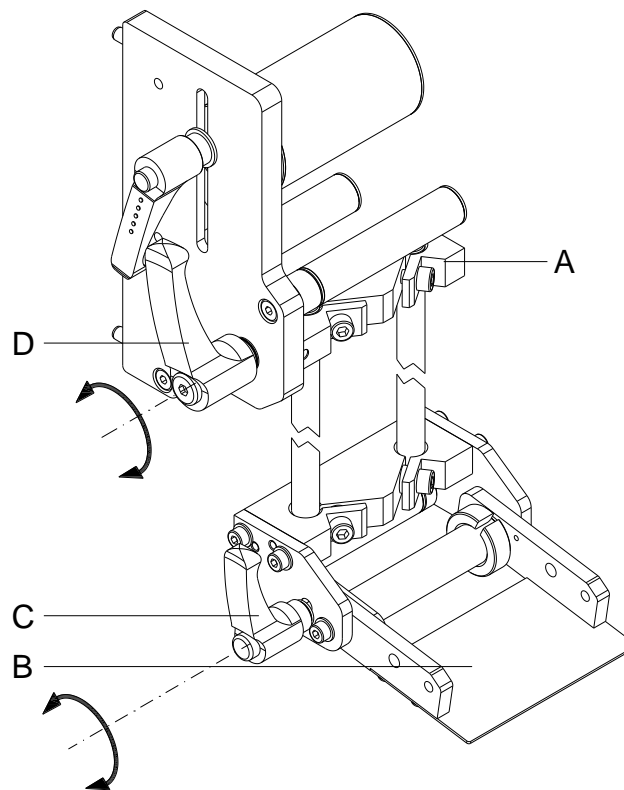

Figure 24
The angle of inclination of the dispensing edge (B, Figure 24, page 37) can be adjusted independently to the angle position (see page 37) by approx. 23 degrees.
1. Move the dispensing rocker (D) forwards/downwards by pulling out the knurled knob (E).
2. Turn the clamping lever (C, Figure 24, page 37) against clockwise direction to loosen the dispensing edge (B, Figure 24, page 37).
3. Change the angle position of the dispensing edge (B, Figure 24, page 37) as required.
4. Turn the clamping lever (C, Figure 24, page 37) in clockwise direction to fix the position of dispensing edge (B, Figure 24, page 37).
5. Turn the internal rewriter (A) of the printing module as long as the backing paper is tightened.
6. Press the dispensing rocker (D, Figure 24, page 37) again upwards and engage.
1. Move the dispensing rocker (C) forwards/downwards by pressing the lever (D).
2. Turn the clamping lever (C, Figure 24, page 37) against clockwise direction to loosen the dispensing edge (C, Figure 24, page 37).
3. Change the angle position of dispensing edge (B, Figure 24, page 37) as required.
4. Turn the clamping lever (C, Figure 24, page 37) in clockwise direction to fix the position of the dispensing edge (B, Figure 24, page 37).
5. Turn the internal retractor (A) of the printing module as long as the backing paper is tightened.
6. Press the dispensing rocker (C) again upwards and engage.